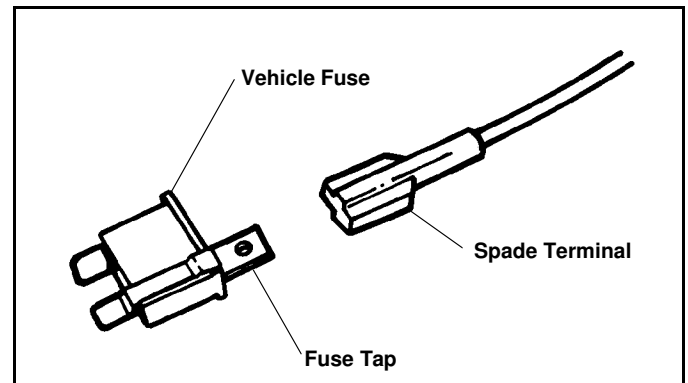

Figure 1-20
15. Using a test probe, determine the fused "Dead/OFF" side of the fuse and attach the A.T.O. Fuse tap to that side of the fuse. (See Figure 1-20.)